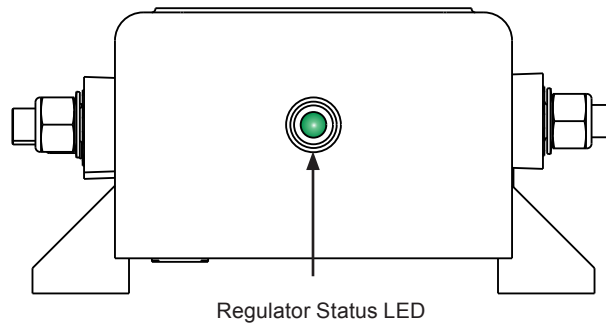

Figure 7: Regulator Status LED Location
- Charging system status LED indicator (see Figure 7 and Table 3 on page 4).